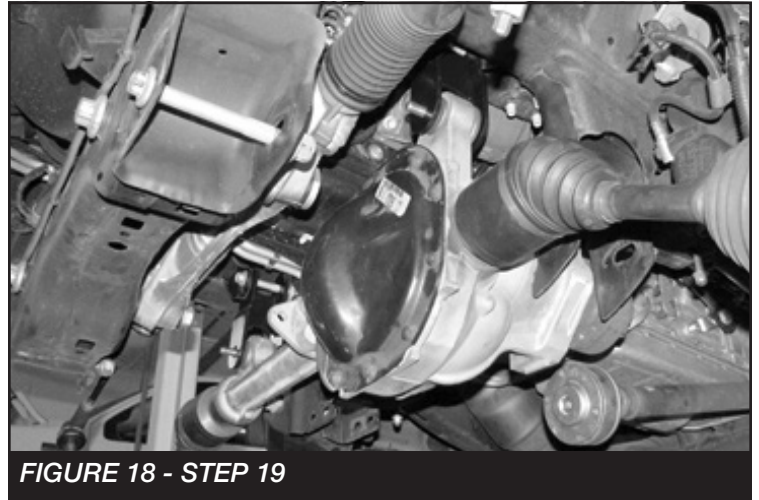

FIGURE 18 - STEP 19
18. Locate the two Fabtech upper differential mounts (FT30491). These upper differential mounts will be installed into the factory upper differential mounts using the factory upper differential mount hardware. The smaller end will go up into the factory mount. Leave the hardware loose in preparation for the differential installation. **SEE FIGURES 18**